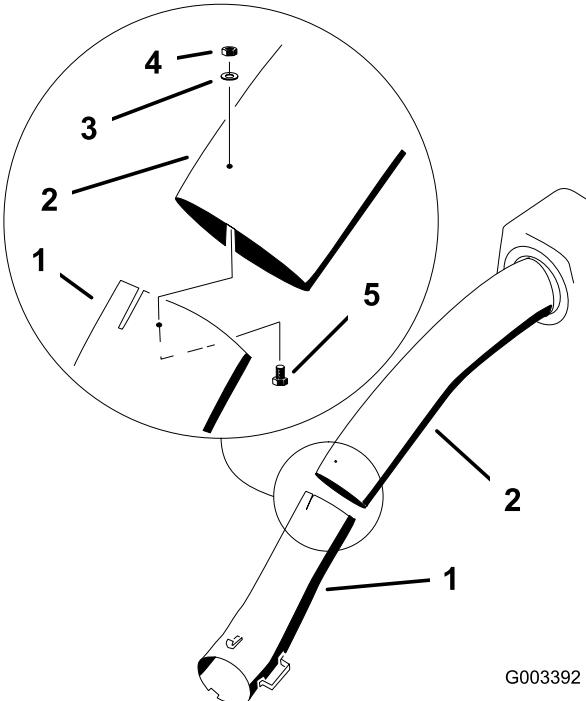

Figure 28
11. Join the upper and lower tubes with 3 bolts (#10 x 3/4 inches), 3 flat washers (7/32 inch), and 3 locknuts (#10) as shown in Figure 28.